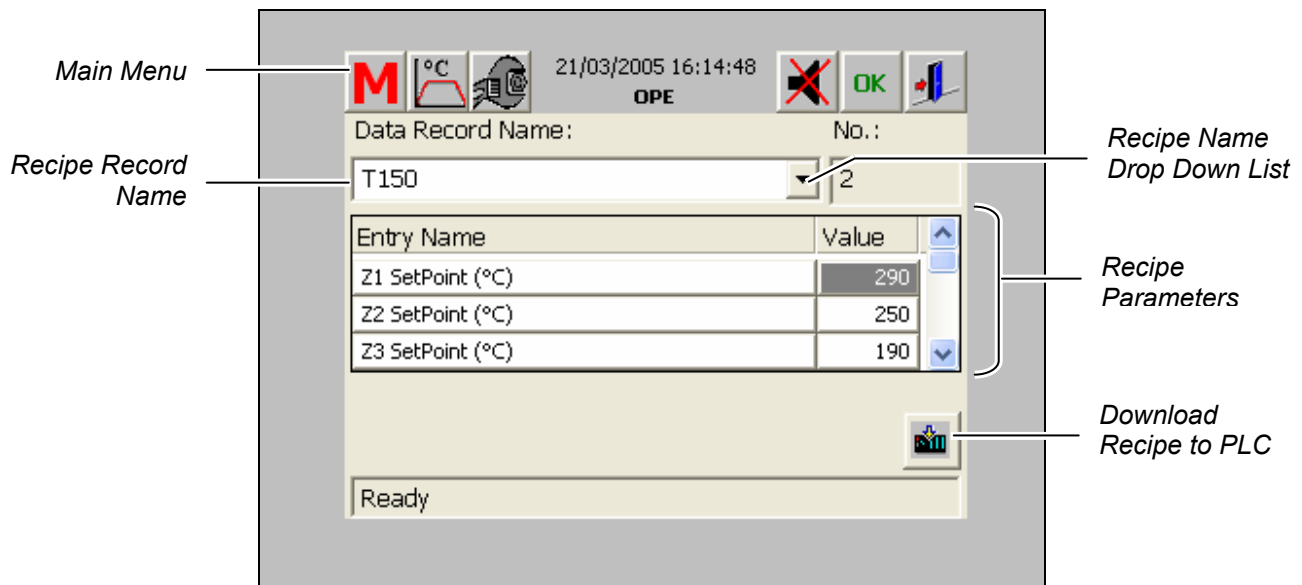

Figure 6-8 Recipe Parameters Screen
3. The Recipe Parameters screen appears (Figure 6-8). From this screen, you can:
4. From the Recipe Parameters screen (Figure 6-8), click the **"M"** button to return to the Main Menu.